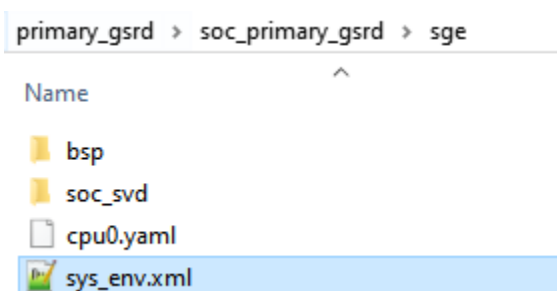

Figure 8.10. `sys_env.xml` File Created
11. Notice that after Generating the Design, it creates the `sys_env.xml` file in the project directory as shown in Figure 8.10.